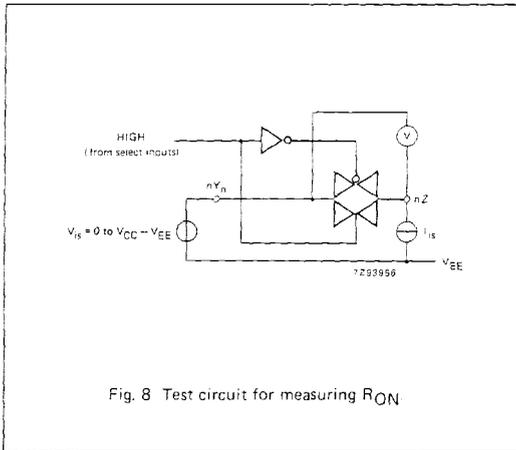

Fig. 8 Test circuit for measuring  $R_{ON}$
- For test circuit measuring  $R_{ON}$  see Fig. 8.